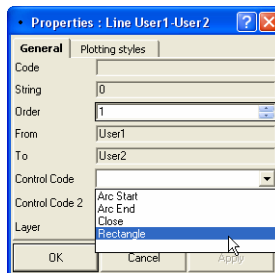

Figure 5-44. Selecting Control Code for Start Point of the Rectangle
3. Select Rectangle as the control code for the point (Figure 5-44) and click **OK**.